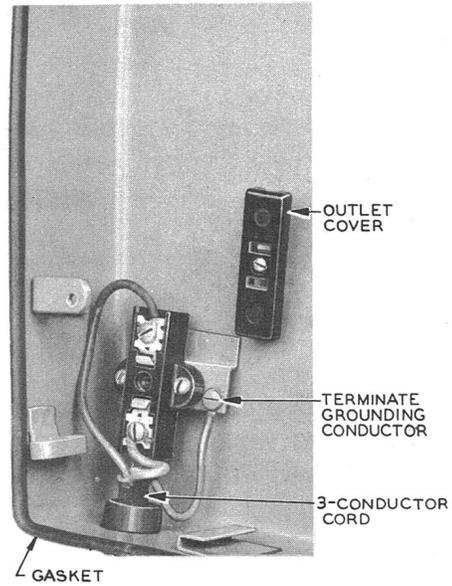

Fig. 2 - Power Cord Termination
3.06 Power connection can be made on the power receptacle in the back box, by the customer's electrical contractor, by removing the screw located in the center of the receptacle cover (see Fig. 2). The terminals for terminating the power wiring are located directly under this cover.
3.07 When a 3-conductor cord is used on an outdoor weatherproof installation, the green wire, which is ground, should be terminated under the screw located to the right of the power receptacle (see Fig. 2).